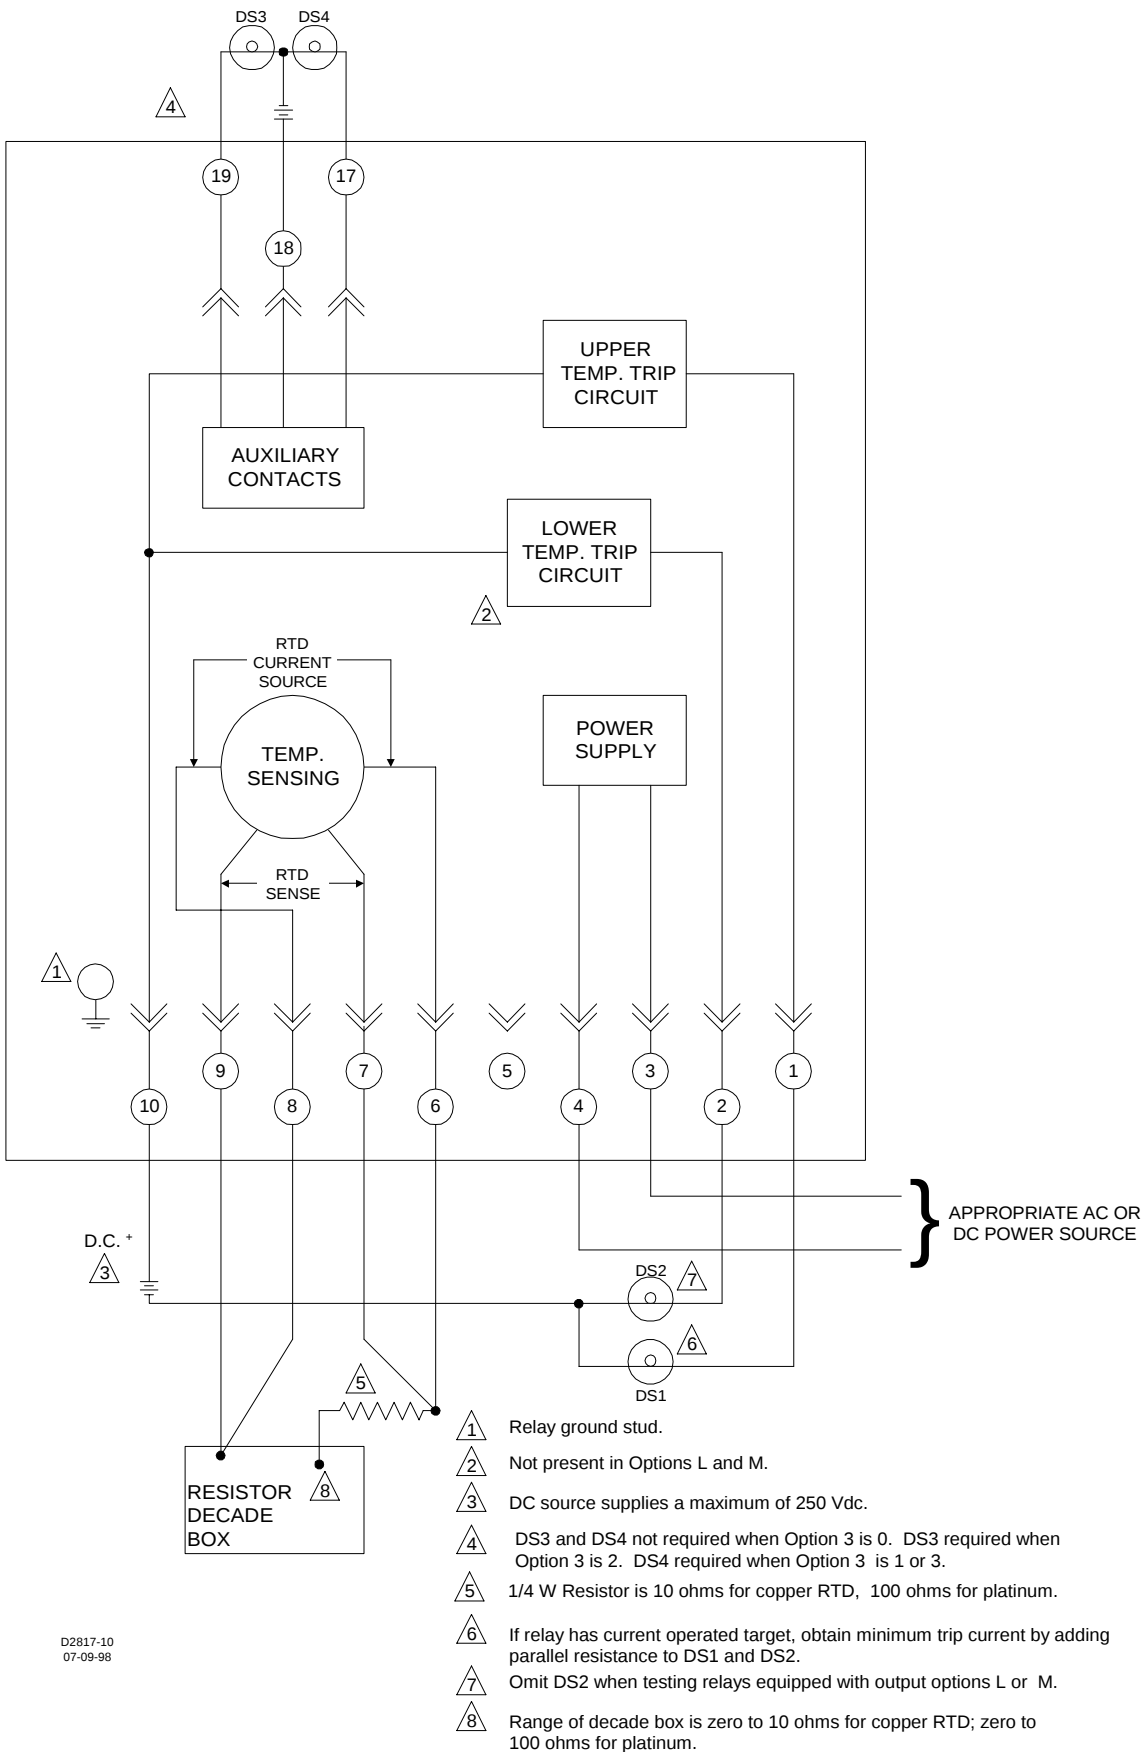

Figure 5-1. Temperature Relay Test Setup
Step 1. Connect the relay as shown in Figure 5-1.
- Step 1. Connect the relay as shown in Figure 5-1.